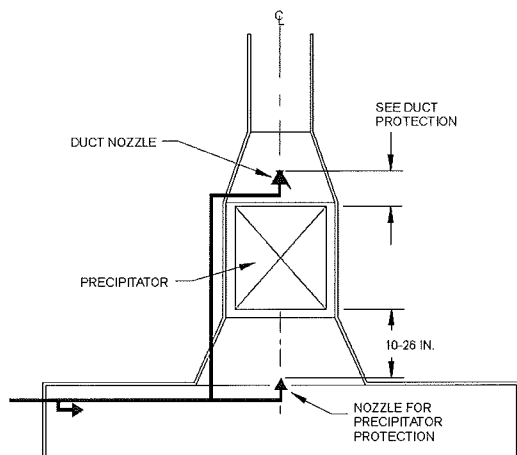

Figure 3-12.3. Nozzle Placement for Single Electrostatic Precipitator.
The duct nozzle(s) must be installed above the precipitator and aimed in the direction of air flow. One (1) Model NL-UB nozzle must be used to protect the precipitator. The nozzle is to be centered 10 to 26 inches before the precipitator with its discharge point aimed at the center of the precipitator. See **Figure 3-12.3**.